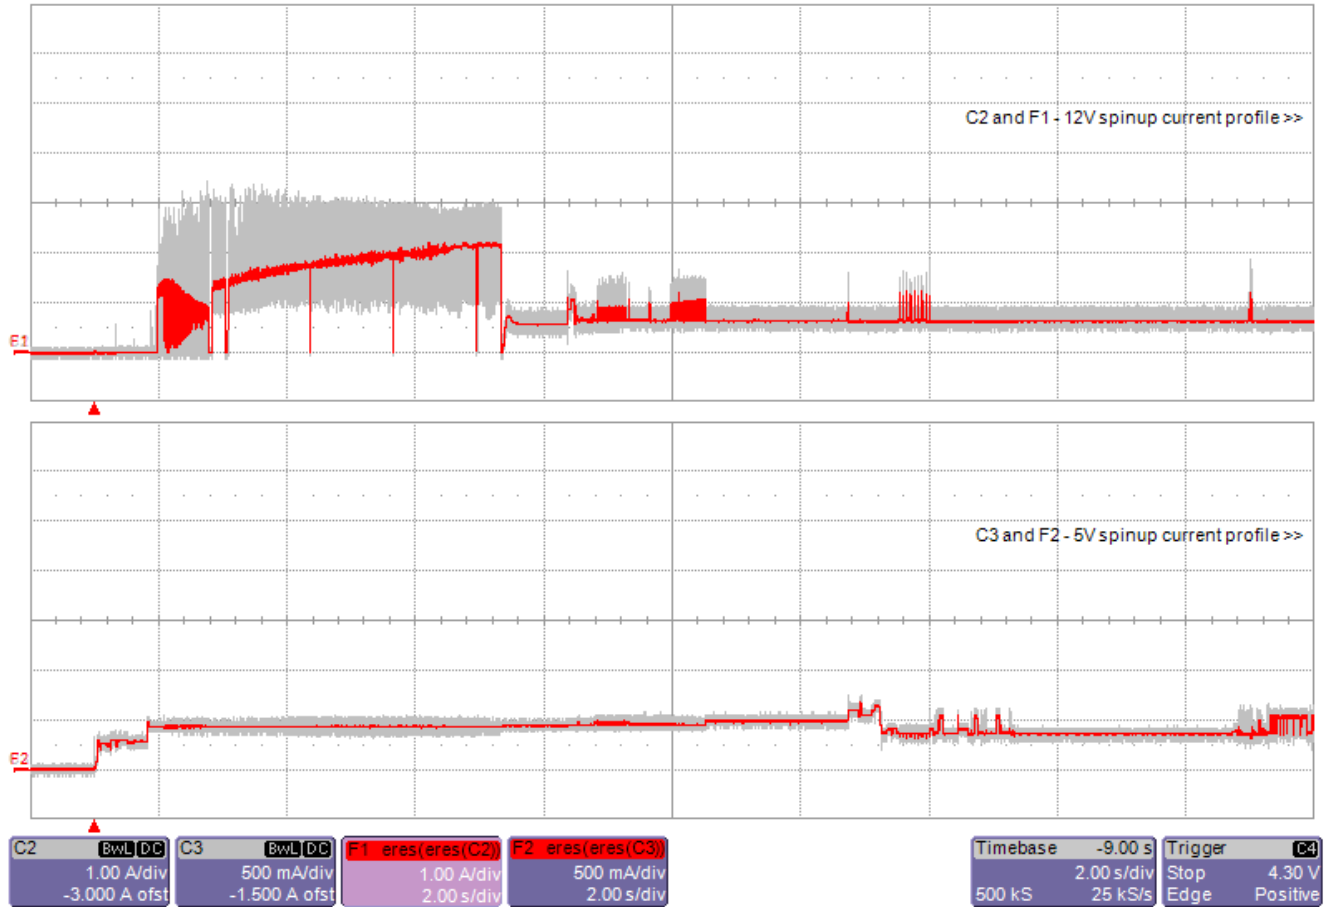

Figure 1. Current profiles for 4000GB models
- [3] See +12V current profile in Figure 1.